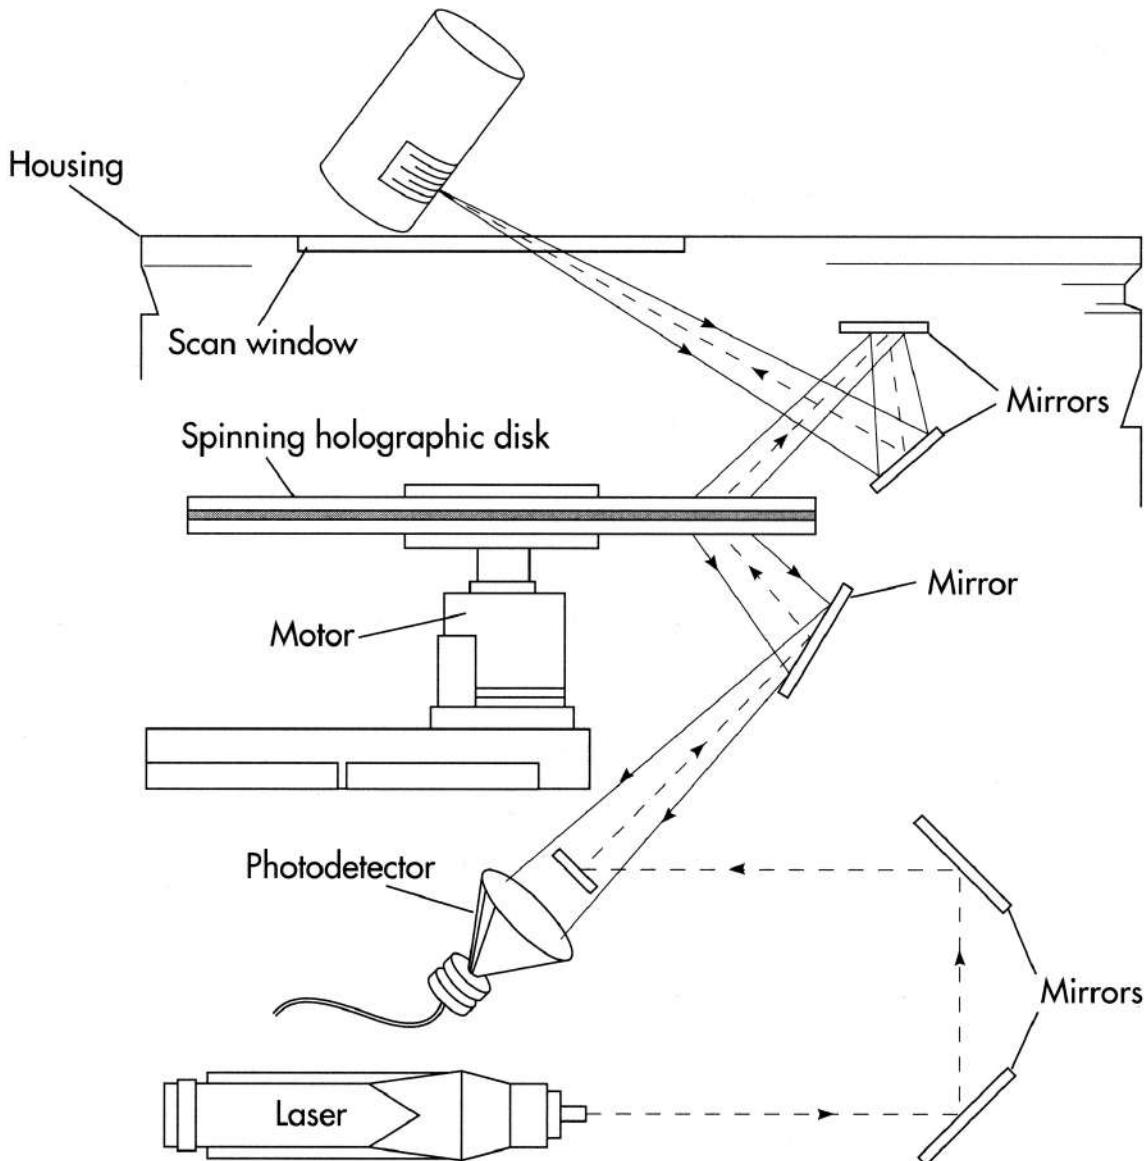

Figure 3. Groceries being scanned with a holographic disk laser scanner at a supermarket.
Figure 3. Once the body is complete, it is attached to an overhead conveyor for a multistep painting process. This involves inspection, cleaning, phosphating, E-coat dipping, drying, underbody sealing, topcoat spraying, and baking.
11. Now the body proceeds to the final paint operation. Vehicle bodies are spray-painted by robots programmed to apply the exact amounts of paint to just the right areas for just the right length of time (see figure 3). Considerable research and programming have gone into the dynamics of robotic painting to ensure the shiny “wet look” finishes consumers have come to expect. Robotic painters are a big improvement on the process used for Ford’s first model Ts, which were painted by hand with a brush.
Although the main goal of ballistic armor is to prevent a bullet from penetrating, the impact of the ammunition still carries a lot of energy, which can cause blunt force trauma to the wearer. So, in addition to soft armor pads and hard plate inserts, many manufacturers offer backing pads that help absorb the energy of a bullet. These pads can be made of a dense foam material, but sometimes include a layer of a non-Newtonian fluid that hardens on impact, distributing the force over a larger area. (See “Body Armor of the Future” for more info.) Various devices are used to strap the vests on. Sometimes the sides are connected with elastic webbing. Usually, though, they are secured with straps of either cloth or elastic, with metallic buckles or Velcro closures (see figure 3).
Figure 3. After the cloth is made, it must be cut into the proper pattern pieces. These pieces are then sewn together with accessories (such as straps) to form the finished armor.
5. Workers use a handheld machine that performs like a jigsaw, except that, instead of a cutting blade, it has a cutting wheel similar to that on the end of a pizza cutter (see figure 3). It is approximately 5.91 inches (15 cm) in diameter. Workers cut around the sheets to form panels, which are then placed in precise stacks.